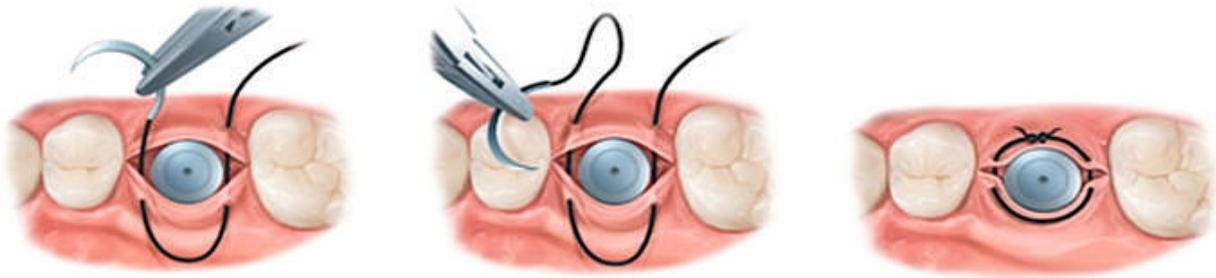

Figure 6 – Horizontal Mattress Suture Technique (4)
Horizontal mattress suture technique tightens both sides of the wound. This is beneficial to close soft tissues. This is the easiest way to fix two papillae with a single knot (Figure 6) (4).